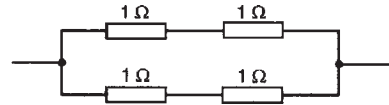

Figure 7.17
- (b) **Two in series, in parallel with another two in series** (see Fig. 7.17), since 1Ω and 1Ω in series gives 2Ω , and 2Ω in parallel with 2Ω gives